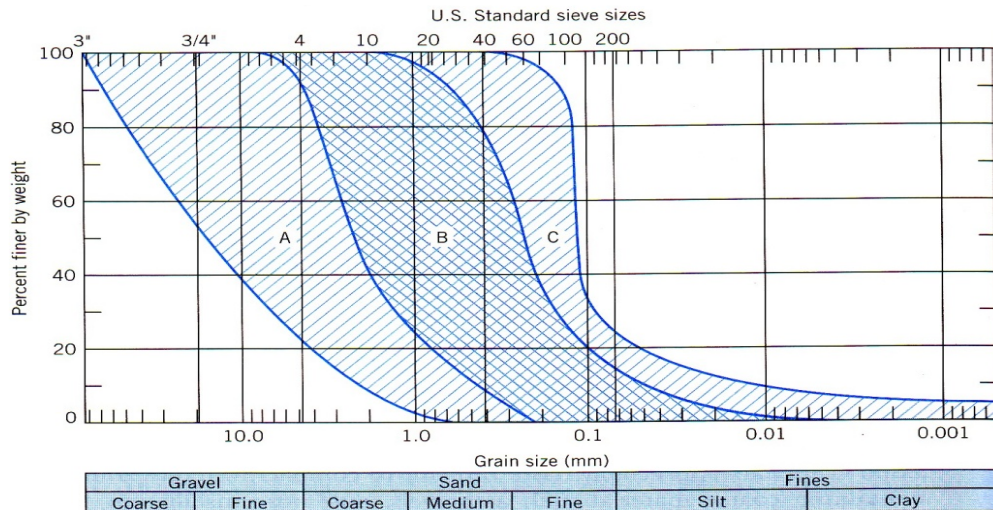

Figure 1
- b) Figure 1 below shows the grain size distribution curves of soils in natural deposits. Categorize the ranges of soils most desirable and least desirable for improvement by Vibrofloatation.